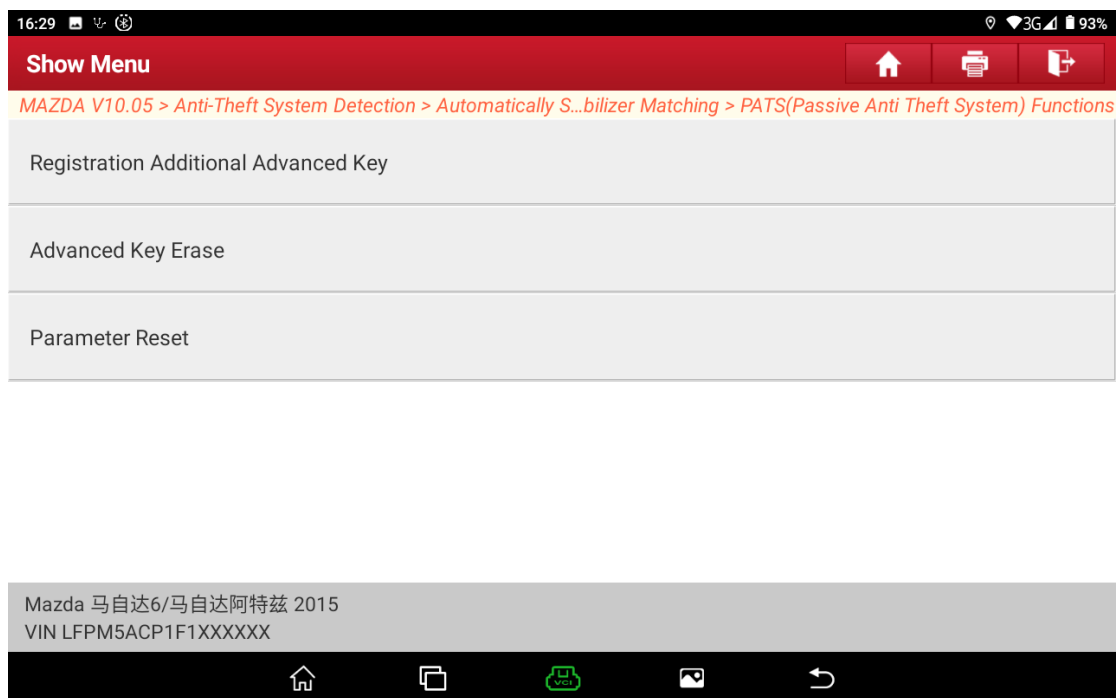

Figure A9
7. Choose [Registration Additional Advanced Key]. See Figure A9.